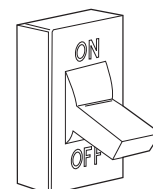

Fig. 18 – Turn Off Electrical Supply
1. Turn off electrical supply to the furnace (see Fig. 18).